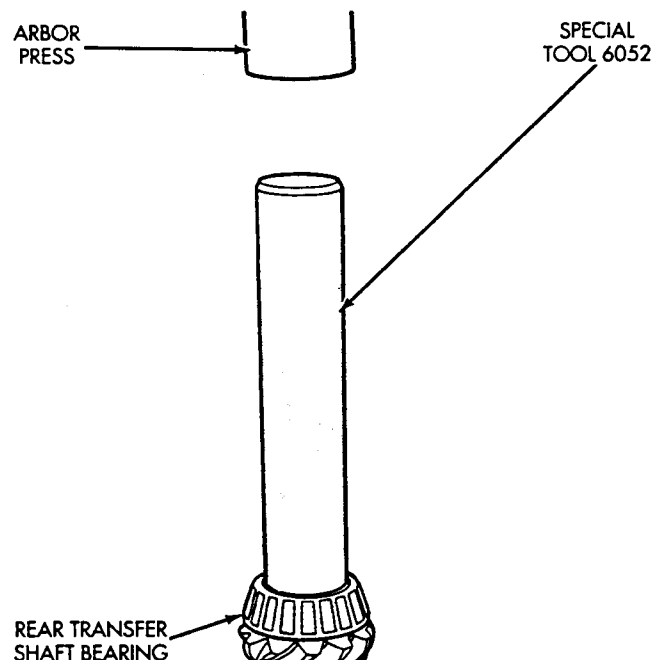

Fig. 13 Bearing Installation
(14) Press front transfer shaft bearing onto transfer shaft (special tool 6052). The shim must be in place before pressing on bearing (Fig. 13).